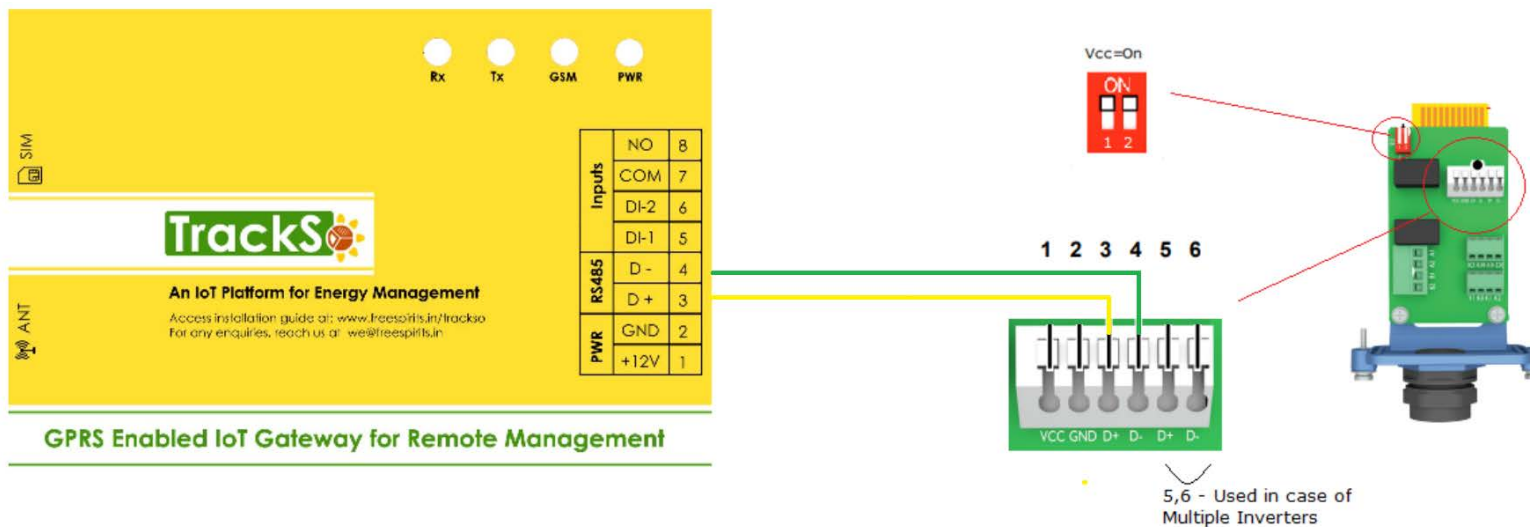

Figure D2 – Delta RS485 chip
2. The RS485 chip will come out (as shown in *Figure D2*).
3. Please make the connections from the Terminal Block of Delta RS485 chip to TrackSo IoT Gateway as mentioned in the Table – *DT1* and *Figure D2*.